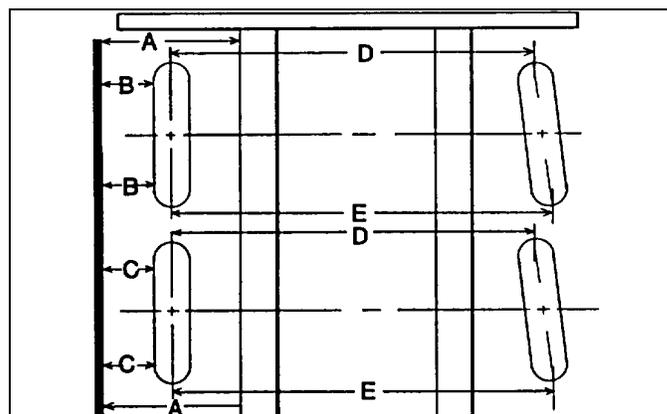

Fig. 3-5
Note: Fig. 3-5 illustrates one means of checking step (b). This involves placing a straight edge parallel to the carrier by measuring a distance (A) at each end of the straight edge. Once the proper position of the straight edge is obtained, measure the distance between the straight edge and the milled surface on the wheel hub used to locate the tire lugs. These four dimensions are represented by the letters (B) and (C), in Fig. 3-5. Distance (B) must equal (B) and (C) must equal (B) does not necessarily have to equal (C). A drag link adjustment may be necessary to correct any misalignment. Be sure to tighten all drag link clamping bolts when adjustment is correct.